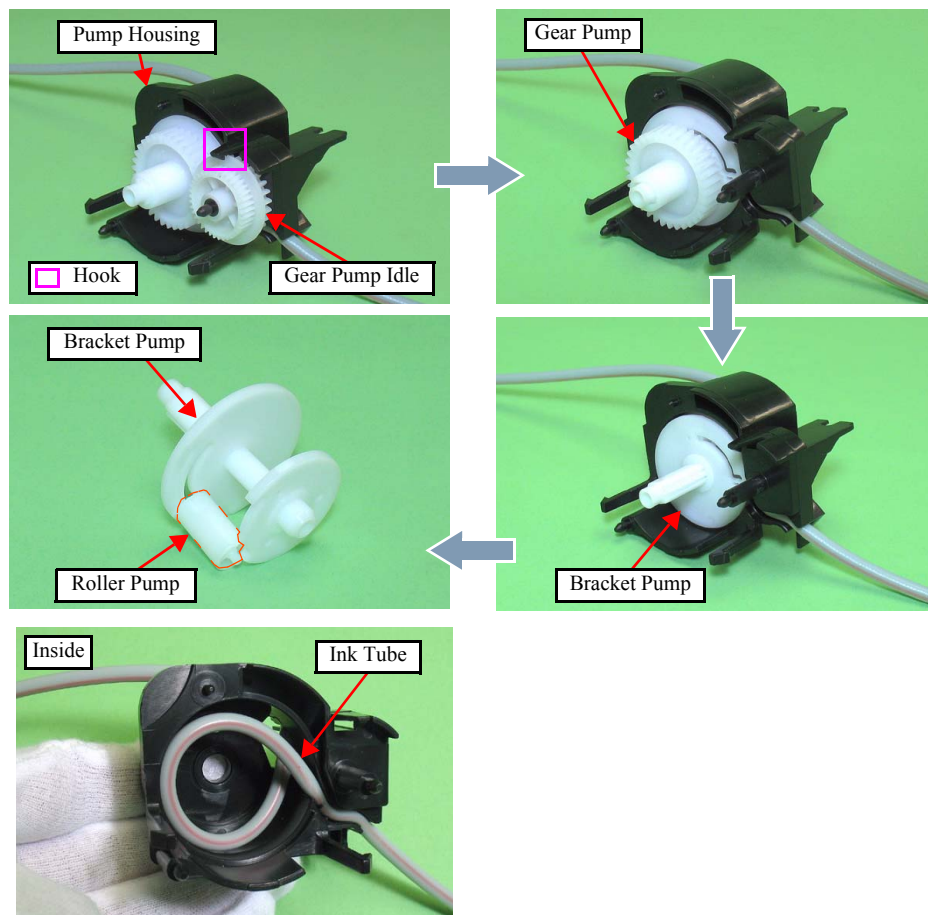

Figure 4-62. Disassembling the Pump Assy
4. Install the Roller Pump to the Bracket Pump. (See Fig.4-62.)
8. Install the Gear Pump. (See Fig.4-62.)
9. Install the Gear Pump Idle. (See Fig.4-62.)